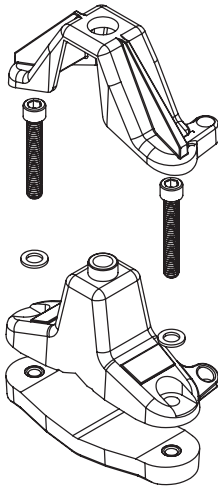

Figure 4
7. For the **Nose Cone Section** mount, position the mounting assembly over the front crossbar making sure the reel housing is sitting on the rear crossbar with enough room to mount in the next step. Once the proper position has been found, flip unit over and tighten the king bolts securing the **Nose Cone Mounting Assembly** in place. Flip unit back over and place **Rack Clamp Feet** underneath front crossbar and secure with **Small Washer** and **2" Rack Clamp Bolt** (for Thule Xsporter use **2.5" King Bolts**) as shown in **Figure 4**